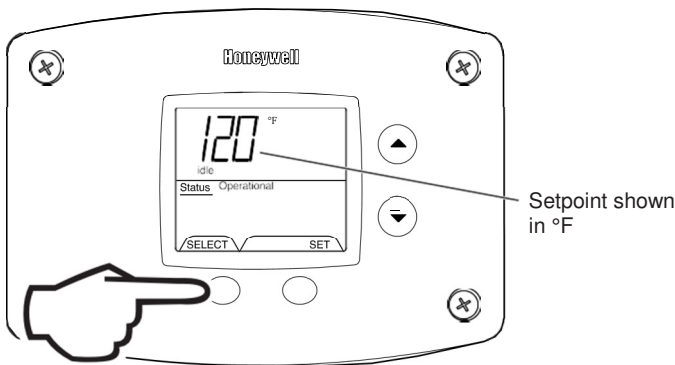

Fig. 24
- Pressing 'SELECT' button will return display to setpoint in format selected (°F or °C) immediately (Fig. 24).